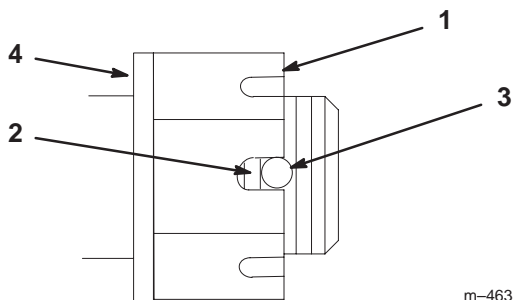

Figure 44
4. Torque slotted nut to 125 ft-lb (170 N•m) (Fig. 44).
5. Check the distance from bottom of slot in nut to inside edge of hole. Two threads or less should be showing (Fig. 44).
6. If more than two threads are showing remove nut and install washer between hub and nut (Fig. 44).
7. Torque the slotted nut to 125 ft-lb (170 N•m) (Fig. 44).
8. Tighten nut until the next set of slots line up with the hole in the shaft (Fig. 44).